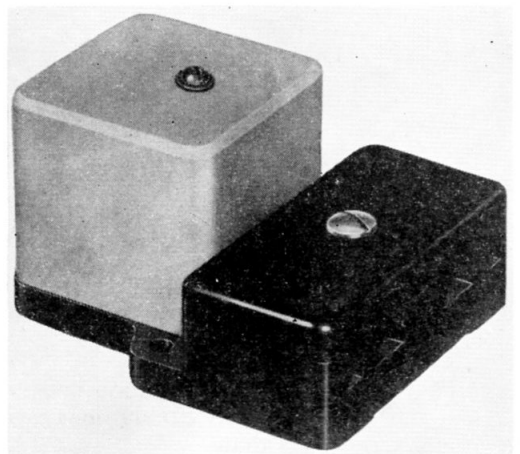
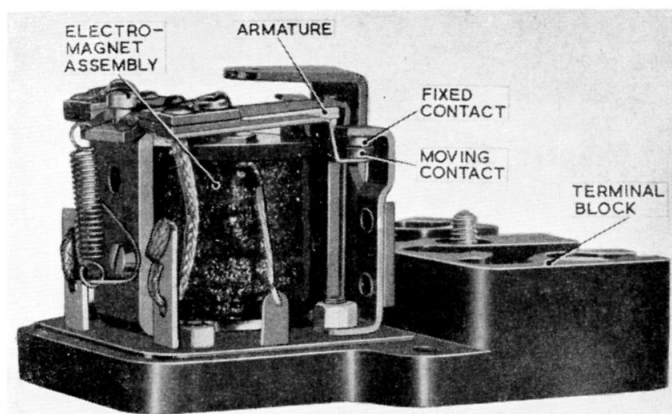

Fig. 1. Magnetic switch, Type 9B, No. 2
Fig. 2. Switch with covers removed
2. The switch (*fig. 1*) incorporates an electro-magnet operating two pairs of contacts. These contacts, one pair of which is normally closed and the other normally open, are secured to an insulating bar fixed to the armature, as shown in *fig. 2*. When the electro-magnet is energized, the armature is attracted to the core; this opens the closed contacts and closes the open contacts.